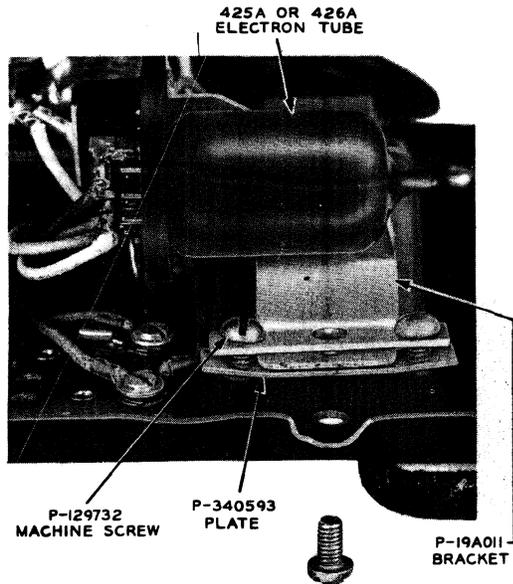

FIG. 4—ELECTRON TUBE BRACKET ASSEMBLY
4.03 The electron tube bracket for the 5306-type telephone set is placed as shown in Fig. 4.